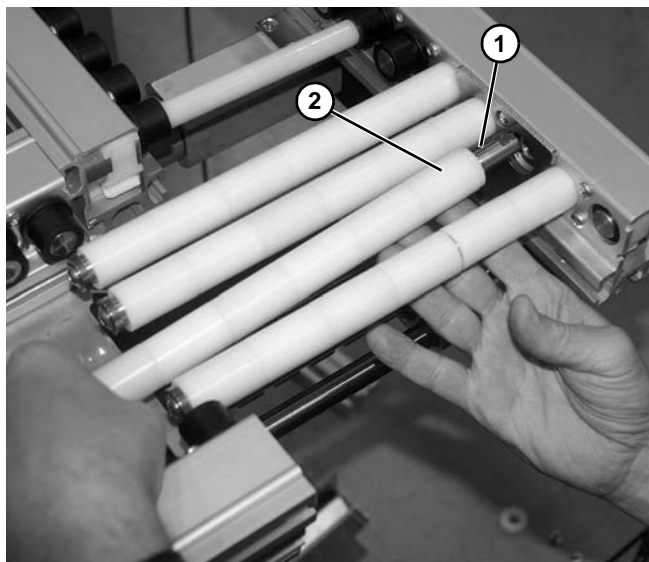

Figure 170
11. Pull rod end (Figure 170, item 1) slightly out, and remove rollers (Figure 170, item 2) from rod.